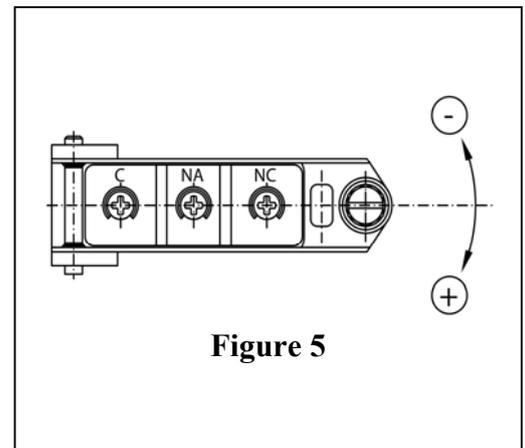

Figure 5
3.27 - 3.30 and differential pressure switches model 3.28 - terminal blocks with screws terminals (Figure 5) with should be 2.5 mm² and terminal block for ground external provided with wire terminal.
1. Connect the micro-switch to a warning lamp or a sound source as shown in fig.5 in order to be warned if any malfunction should occur during operation;